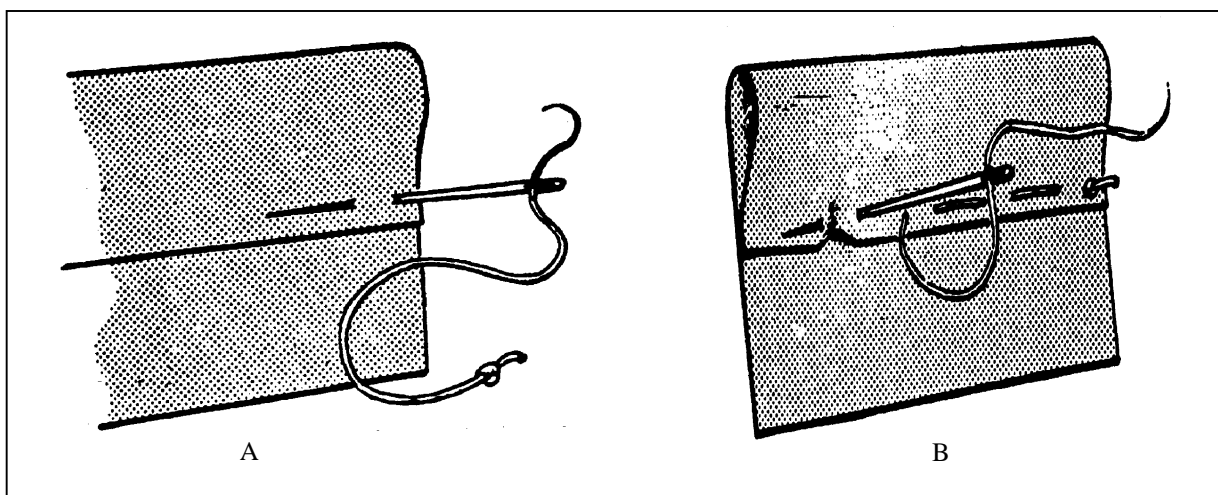

Figure 2-4. Basting stitch
a. Basting Stitch. The basting stitch (Figure 2-4) is very common in tailoring. Before any permanent stitches are put into a garment, a temporary stitch is put in to hold the material in position or to see if the garments will fit the individual properly. To make a row of basting stitches--
- (1) Thread the needle with a contrasting color of thread so the stitches will be easier to see and remove later.
- (2) Stick the needle through the cloth, and pull the thread through the cloth to the knot.
- (3) Stick the needle into the cloth, and weave the needle in and out of the cloth several times. Stitch alongside, instead of directly on, the line where the permanent stitches will be sewn. Make the stitches two or three times longer than running stitches.
- (4) Pick up as many stitches as possible before pulling the needle and thread through the cloth. Continue to stitch to the end of the row.
- (5) Make a knot in the thread close to the cloth, and cut off the remaining thread.
- (6) After the permanent stitch has been placed into the material, the basting stitch is then removed.
- (7) The length of the basting stitch depends on the work that has to be performed. If the stitch is placed on the collar of a jacket, many stitches are needed to hold the material in place, but on the legs of trousers when they are being hemmed, only a few are needed and they can be placed a reasonable distance apart.